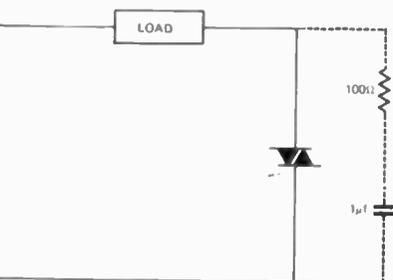

Fig. 15. Capacitor and resistor should be connected across the Triac when switching inductive loads.
All the circuits described so far will operate reliably with resistive loads. Inductive loads present a minor problem. For reliable operation it may be necessary to limit the rate of voltage rise immediately following turn-off. This is done by connecting a capacitor and series resistor across the Triac (Fig. 15).
An even safer method is to install both the bell batteries, and the circuit shown in Fig. 15, inside the bell enclosure.
Fig. 15. Inherently safe alarm bell circuit. The components inside the dotted lines are installed within the bell case. The external leads are wired through the closed contacts of the alarm control unit output relay RL2(2) and then across the battery in the same unit (note polarity). In the safe position the alarm control unit battery reverse biases the SCR in the bell case. If the bell leads are open circuited, shorted or reversed, the bell will operate. The commutating effect of the bell solenoid contacts ensures that the SCR does not latch on if triggered by transient noise.